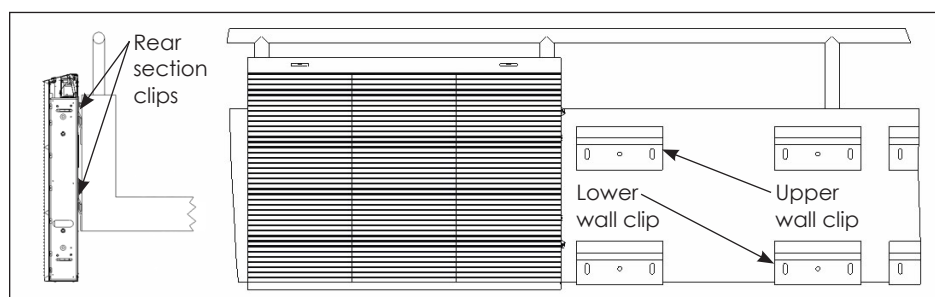
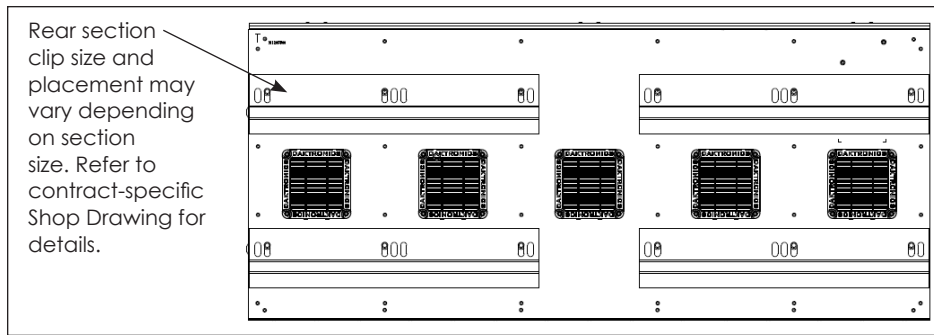

Figure 12: Mount Display to Wall
Figure 13: Rear Section Clips
1. Verify all rear section clips are securely attached from the factory before lifting each section. In most cases, each section should have two rear section clip locations. These clips should align with the pre-installed wall clips on the structure. Refer to **Figure 12** and **Figure 13**.